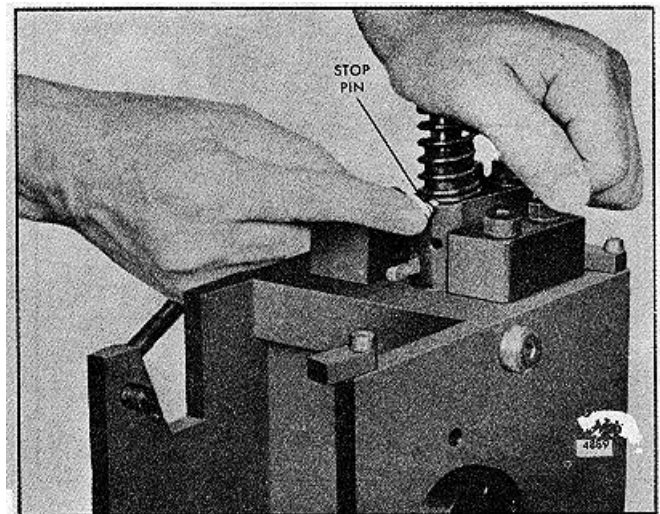

FIG. 35 - Installing Injector Follower Stop Pin
3. Refer to Fig. 35 and place the stop pin on the injector body so that the follower spring rests on the narrow flange of the stop pin. Then align the slot in the follower with the stop pin hole in the injector body. Next align the flat side of the plunger with the slot in the follower. Then insert the free end of the plunger in the injector body. Press down on the follower and at the same time press the stop pin into position. When in place, the spring will hold the stop pin in position.